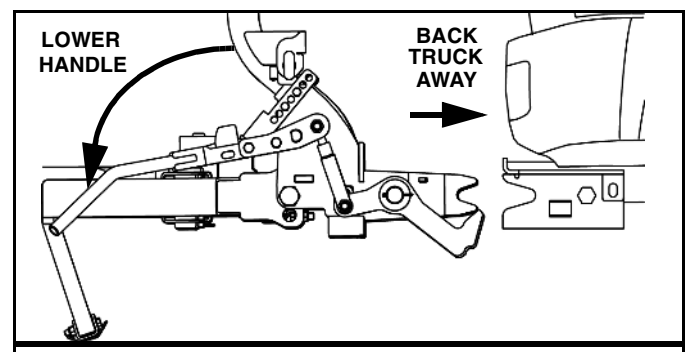

Figure 1-47
3. Pull safety pin on engagement handle to release and lower handle to disengage plow from truck. (See Figure 1-47).